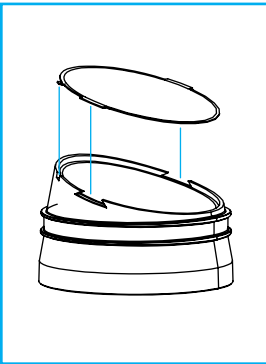

Fig.53
B. To change lens, carefully push the lens up out of the baffle. Insert preferred lens in proper orientation, and carefully press it into place *"Fig.53"*.